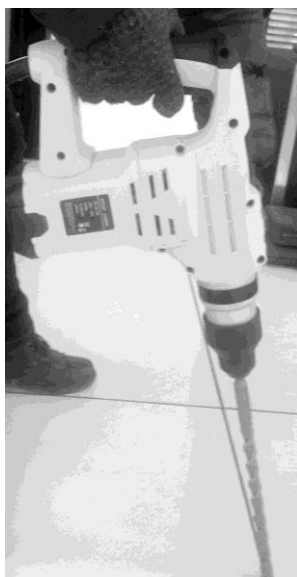

Fig 5
3. By utilizing the weight of the machine and by firmly holding the hammer chisel with both hands, one can effectively control the subsequent recoil motion. (See Fig 5)